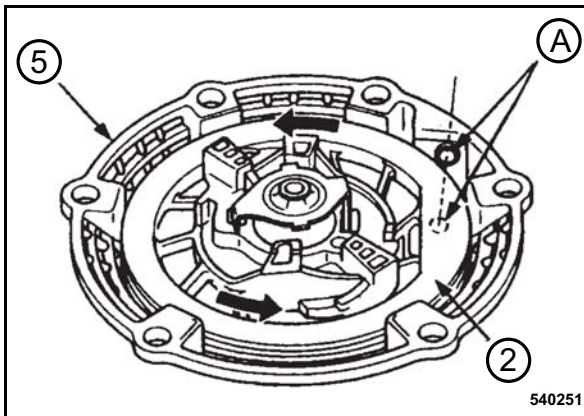

Fig. 69
- Before assembling the rope turn the coil (2) (Fig. 69) 5 revolutions in anti-clockwise direction and align the rope openings on coil and housing (5) to match (A).